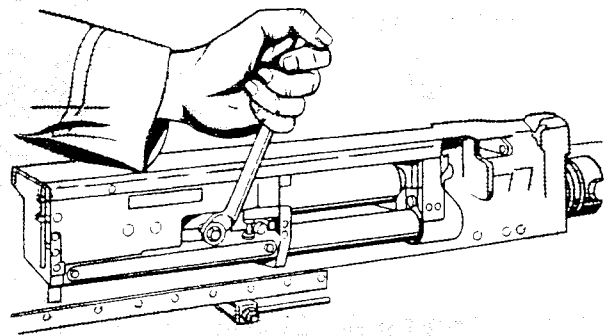
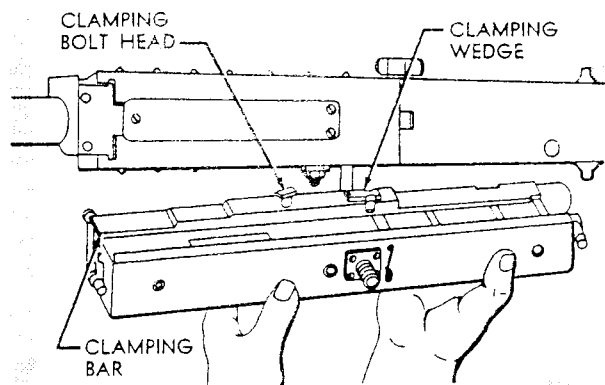

Figure 2-41. Turning Castle Nut to Loosen Clamping Bolt on Gun Charger
Figure 2-42. Applying Gun Charger to Machine Gun
g. Attach charger to gun by first inserting head of clamping bolt in slot then fit clamping wedge on mounting bar into slot. (See figure 2-41.) The stud must extend through guide slot in wall of cylinder. (See figure 2-42.)